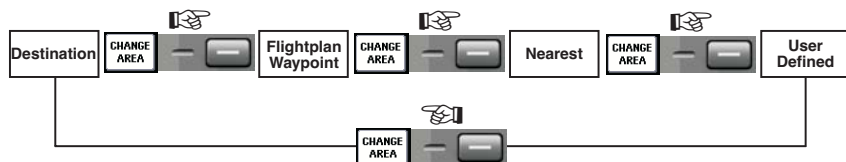

Figure 2-60
1. Press the **CHANGE AREA** Softkey to view either **Nearest** to present position, a **User Defined** location, the **Destination** (last waypoint in a flightplan) or **FPLN WPT** (any waypoint in an active flightplan). The softkey cycles through the **FILTER AREAS** as shown in Figure 2-60.